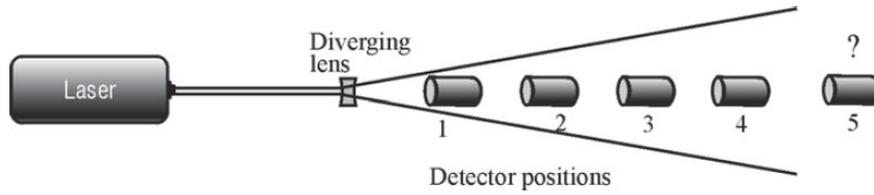
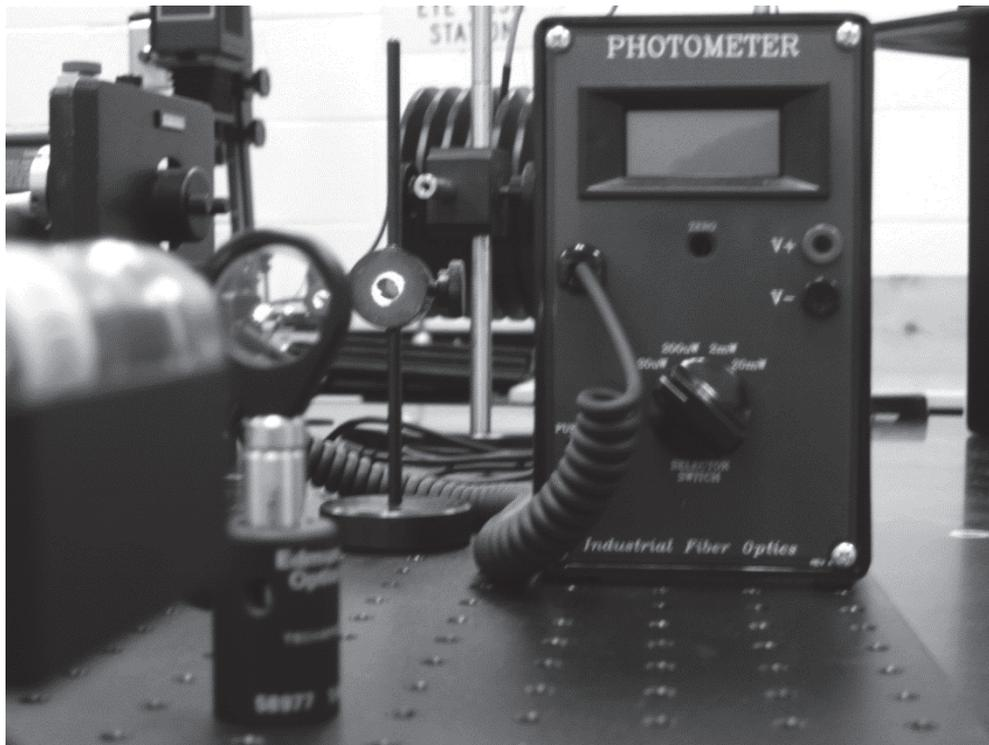
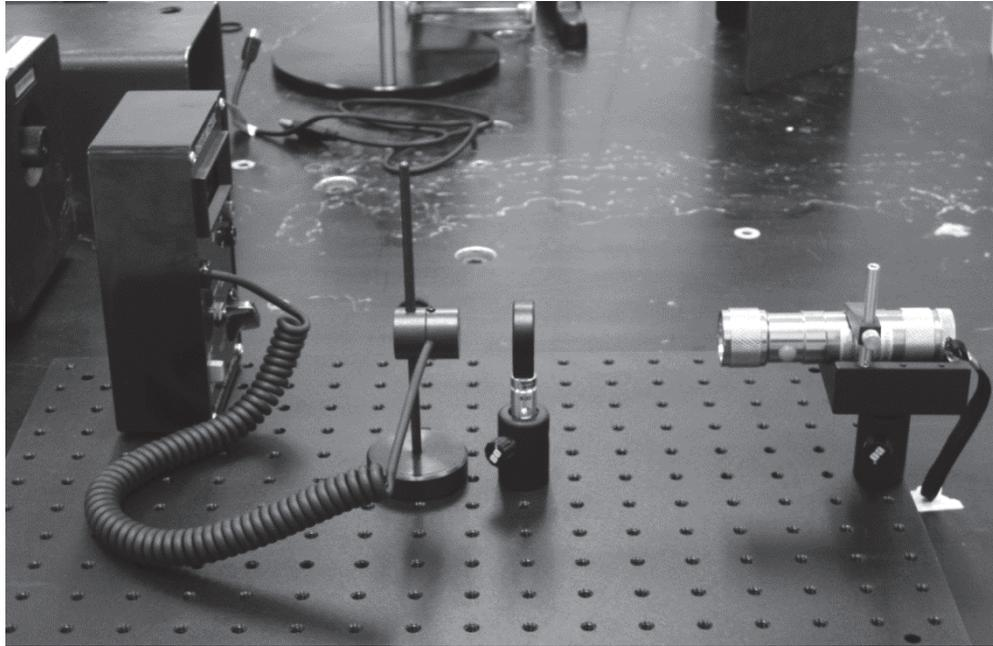

Figure 18 – Irradiance of an Expanded Beam Illustrated
Figure 19 – Expanded Beam Power Measurement Set-up
Figure 20 – Expanded Beam Power Measurement Set-up
2. Mount a 1.5" post holder onto a optical breadboard approximately 10 cm from the laser aperture. Insert a 1.5" post into the 1.5" post holder. Mount the dual filter holder (LI-9) to the post inserted into the post holder. Mount a Plano-Concave Lens (LI-7) into a 1" Fixed Lens Mount (LI-6). Mount the 1" Fixed Lens Mount onto the 1.5" post. Refer to Figure 18. Be careful of reflections off the lens when inserting the lens in the beam. Be sure that the expanded laser beam does not enter the eye directly.
- Using the photometer, measure the power of the expanded beam at four distances from the diverging lens, as indicated in Figure 18, Figure 19, and Figure 20. The beam should be larger than the detector at the nearest point and all measurements should be made with the beam centered on the detector. Record distances and corresponding powers in Lab Table 11.